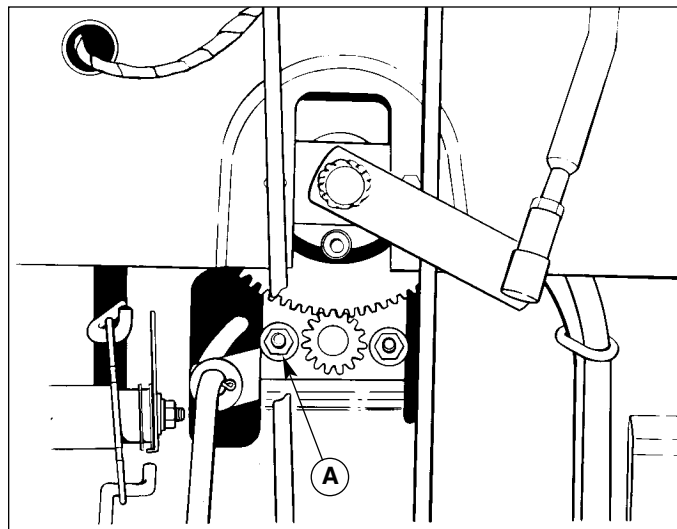

Figure 15. Steering Gear Adjustment
If there is excessive back-lash in the steering system, the steering gear can be adjusted to the steering shaft gear for better engagement. Refer to Figure 15. Loosen two capscrews (A) and adjust bracket so that gear teeth are more closely meshed. Retighten nuts after adjustment.